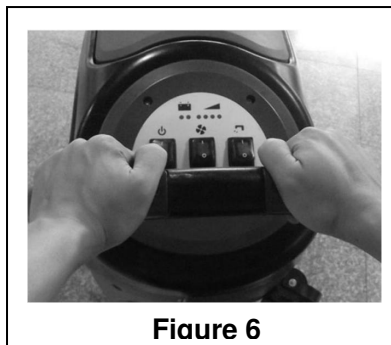

Figure 6
2. Hold the on / off switch (1) (Figure 6), push to move the machine, and start the scrubbing.